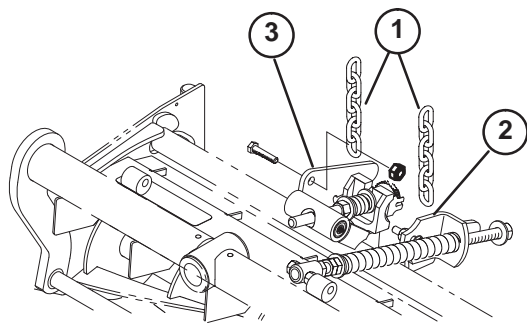

Figure 9
12. On front center cutting unit, remove nut securing turf compensation spring mounting bracket to left cutting unit stabilizer ear (Fig. 9). Insert left tipper chain onto capscrew and secure with nut removed.
13. Secure the right tipper chain to right cutting unit stabilizer ears with a capscrew (3/8 x 1 inch) and flange nut supplied in loose parts (Fig. 9).